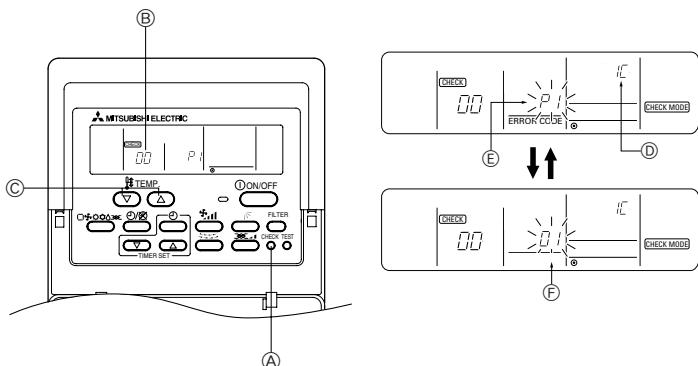

Fig. 7-2
7.3.1. Wired remote controller (Fig. 7-2)